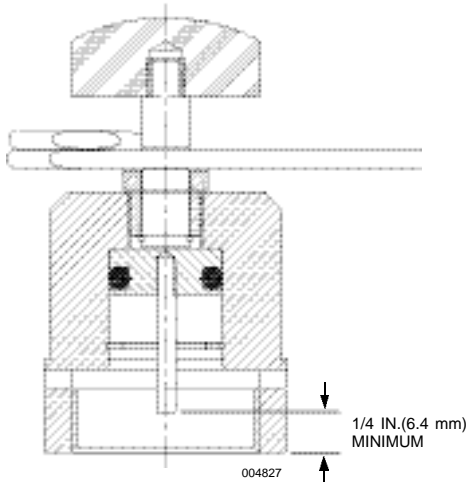

Figure 39 - Manual Actuator Non-Fire Position
**Caution.** Before attaching the strike knob to the electrical actuator or valve, ensure that the firing pin is retracted and the safety pin is in place (see Figure 39). Raising strike knob manually DOES NOT reset pin. Pin must be pushed up manually. The strike knob must be hand-tight only.